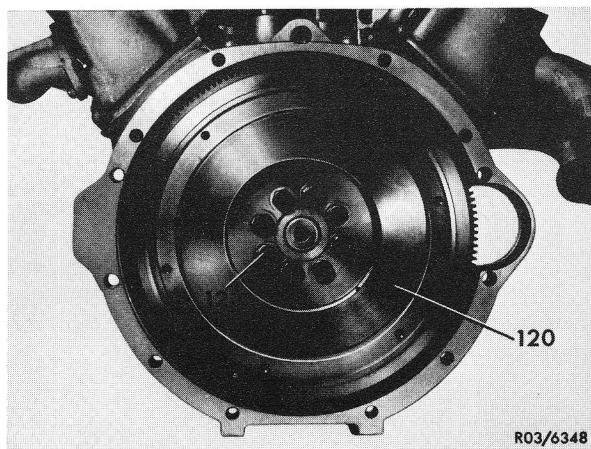

Fig. 2
- 1 Loosen fastening bolts (123) and remove flywheel (120) or driven plate (124) (Fig. 2 and 3).